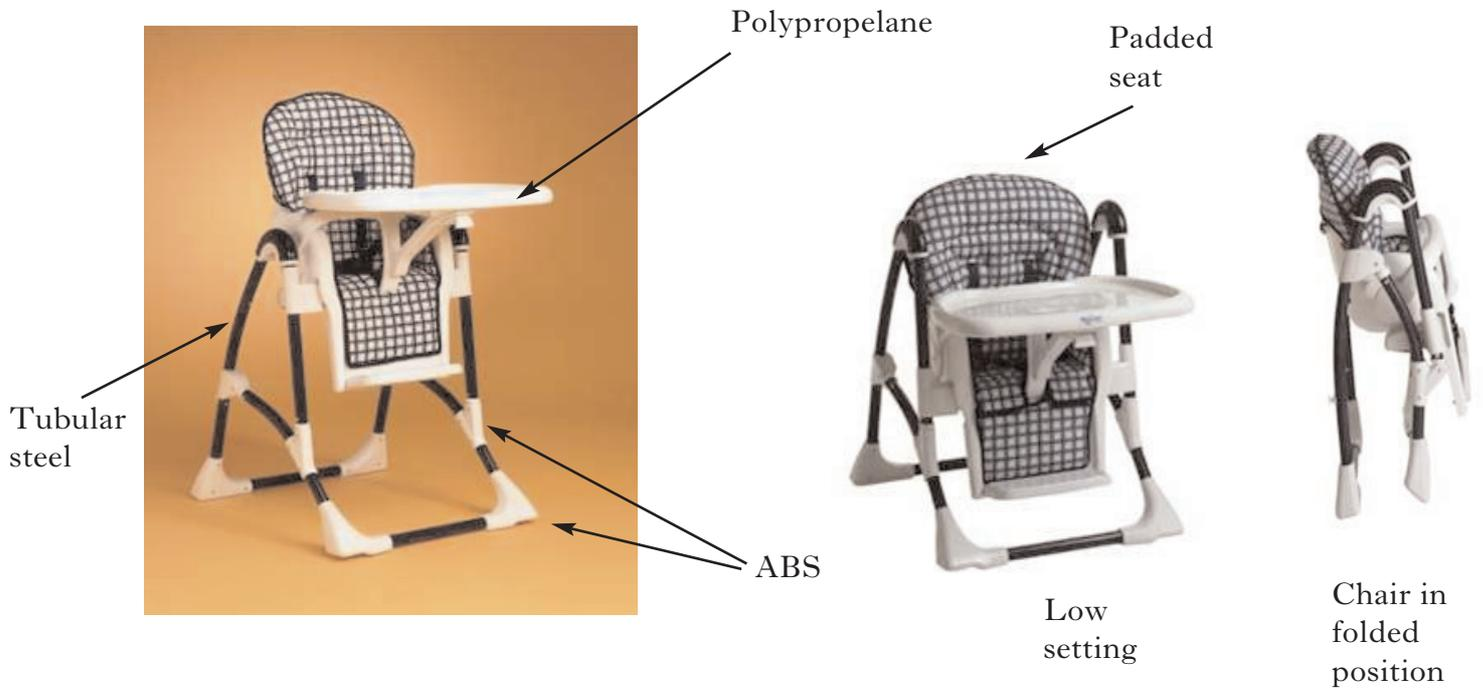

FIGURE 1
1. Figure 1 shows similar children's high chairs.
Figure 1 shows two similar children's high chairs.